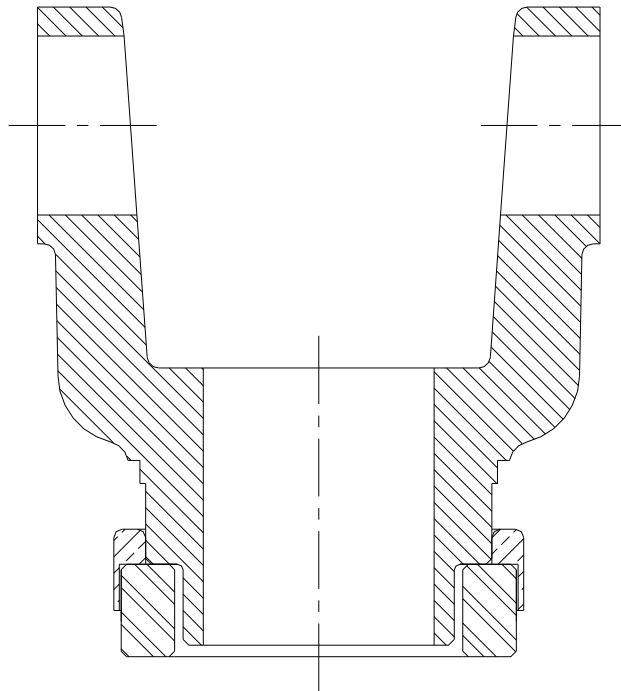

Fig 2a
- When yoke is positioned properly, press into place. Yoke will stop when it is fully seated as shown in Fig 2a.